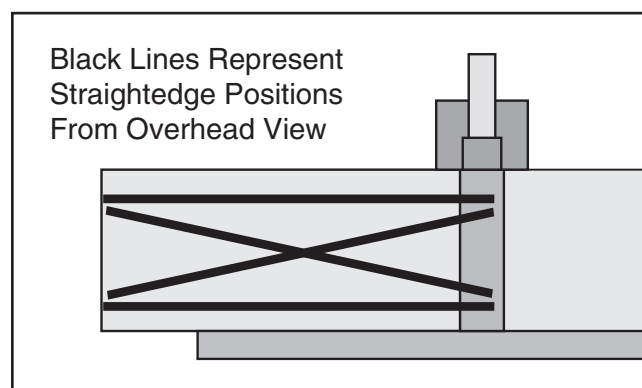

Figure 53. Straightedge positions for verifying if outfeed table is parallel with cutterhead.
5. Place the straightedge in the positions shown in **Figure 53**. In each position, the straightedge should touch the cutterhead and sit flat on the outfeed table.
3. Place the straightedge in one of the positions shown in **Figure 53**, and adjust the table by turning the eccentric bearings (a small hammer and punch or pin-type spanner wrench may be necessary), so that the straightedge touches the cutterhead while lying flat across the outfeed table. Repeat this step with each of the remaining straightedge positions as necessary until the outfeed table is parallel with the cutterhead.